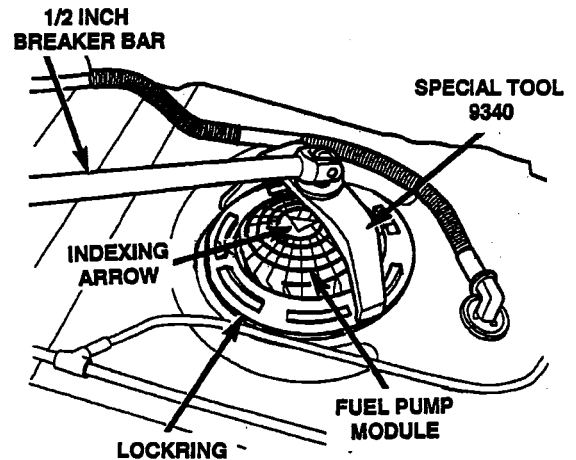

Figure 10
a. Note the rotational position of the module before attempting removal. An indexing arrow is located on the top of the module for this purpose (Figure 10).
b. Position Special Tool 9340 into the notches on the outside edge of the lock ring (Figure 10).
16. Position the lock ring over the top of the fuel pump module (Figure 10).
18. Using Special Tool 9340 and a 1/2 inch breaker bar, tighten the lock ring (clockwise) until all seven notches have engaged (Figure 10).